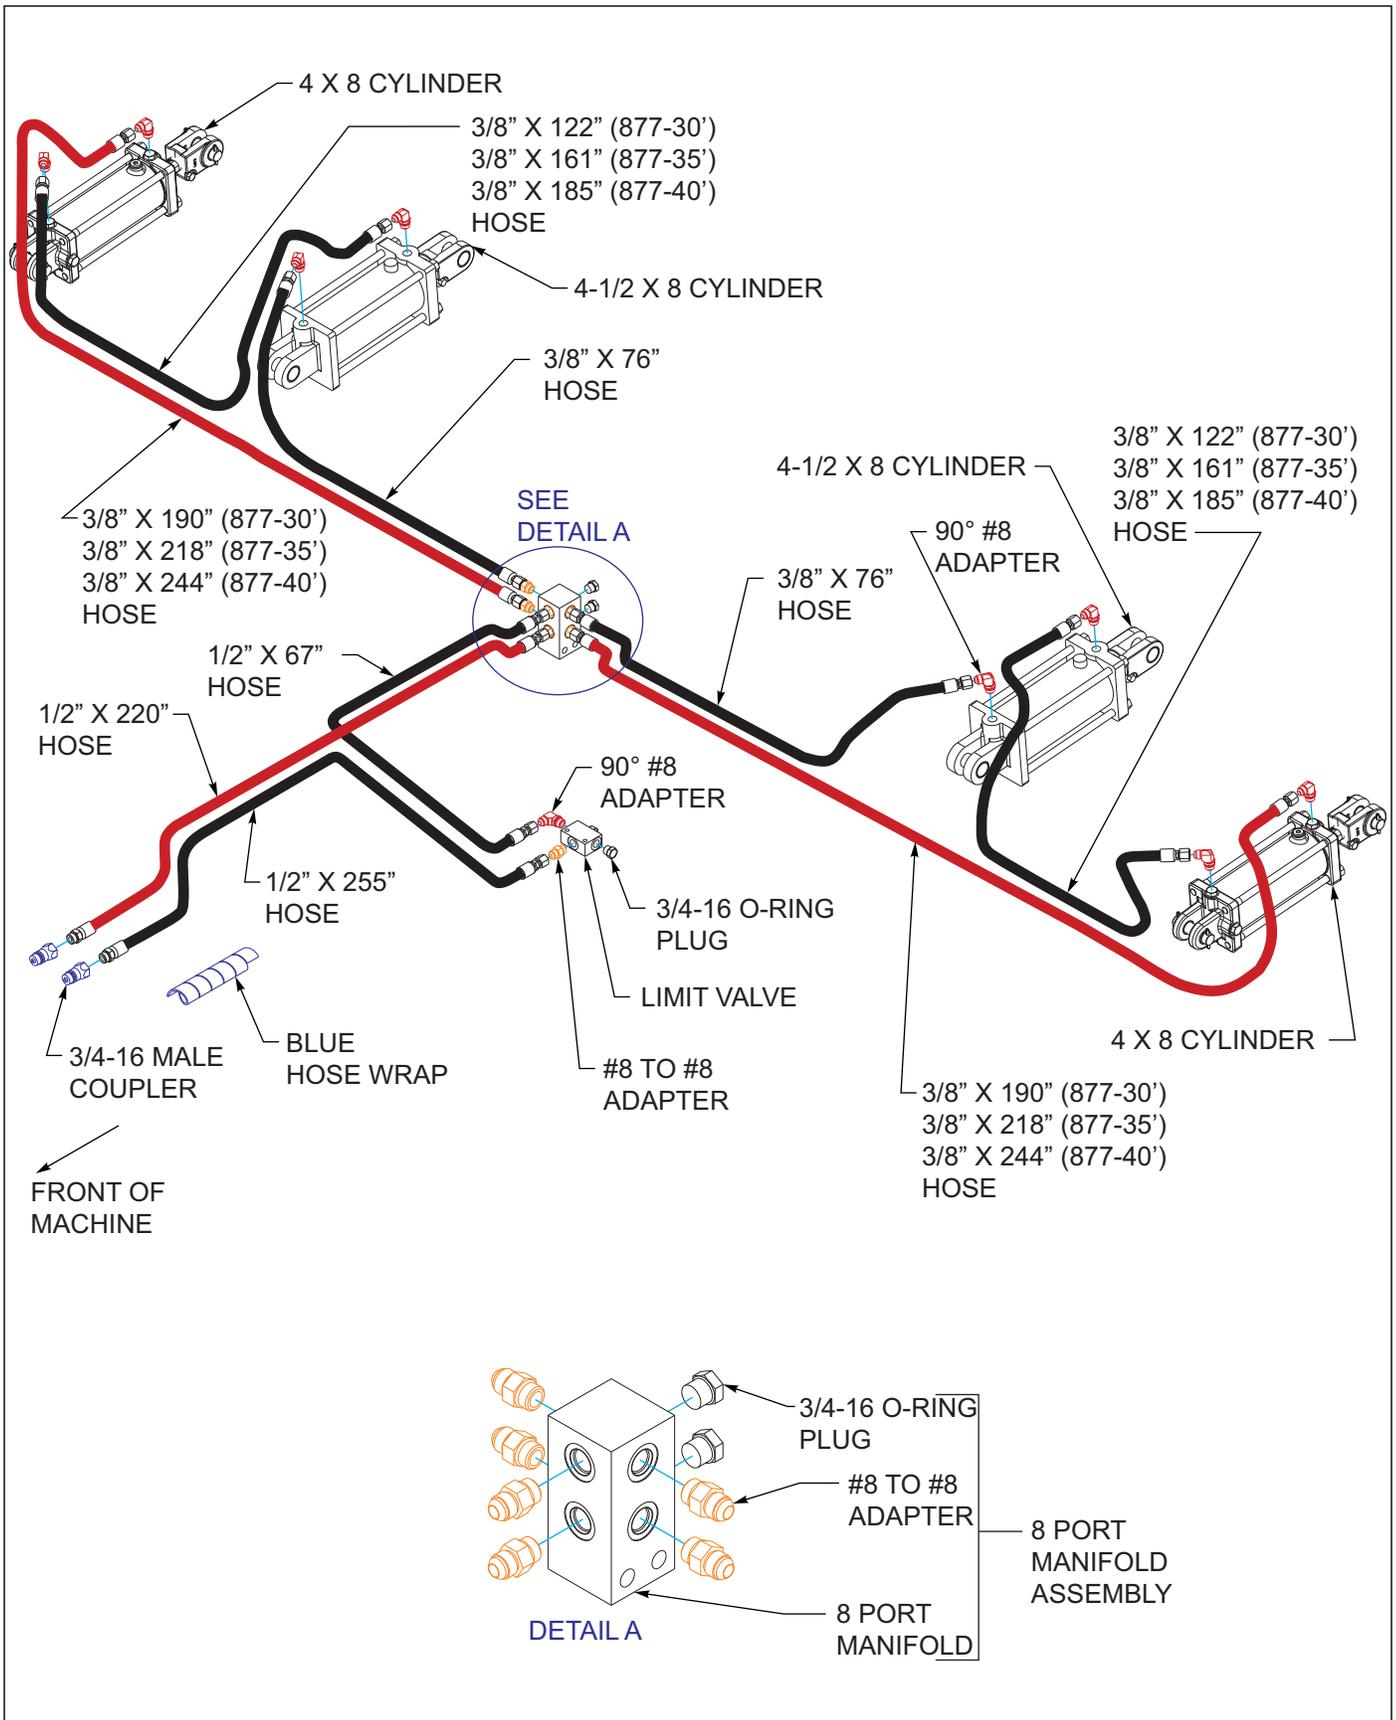

Figure 3-16: Lift Hydraulic Installation
See Figures 3-16 for Hydraulic Lift Installation.
3. Install 90° #8 adapters into base and rod end of each lift cylinder See Figures 3-16.
5. Install lift cylinder hoses and couplers See Figures 3-16. Wrap lift cylinder hoses with blue hose wrap.